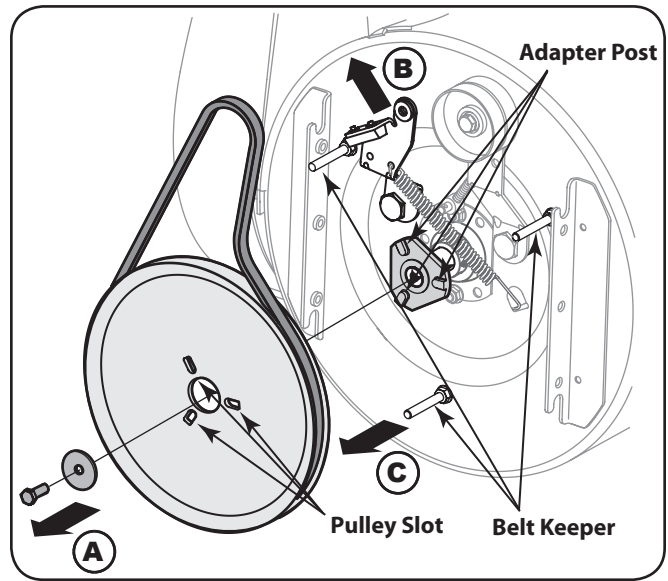

Figure 7-7
- Block the impeller with a piece of wood to prevent it from spinning and use a 1/2" wrench to remove the hex screw and flat washer from the center of the auger input shaft and auger pulley adapter. Refer to "A" in Figure 7-7.
- Lift the brake bracket assembly out of the pulley groove (B) and slide the pulley assembly off the posts of the auger pulley adapter (C) to remove the old belt. Refer to Figure 7-7.
- Turn the pulley as necessary to align its three slots approximately with the posts of the pulley adapter, then move the brake bracket assembly away from the input shaft. While aligning the pulley slots and adapter posts, push the auger pulley fully onto the adapter. Refer to Figure 7-7.
NOTE: If the pulley adapter was removed with the pulley, align the splines of the pulley adapter and auger input shaft, and push the pulley and adapter onto the input shaft. Refer to Figure 7-7.